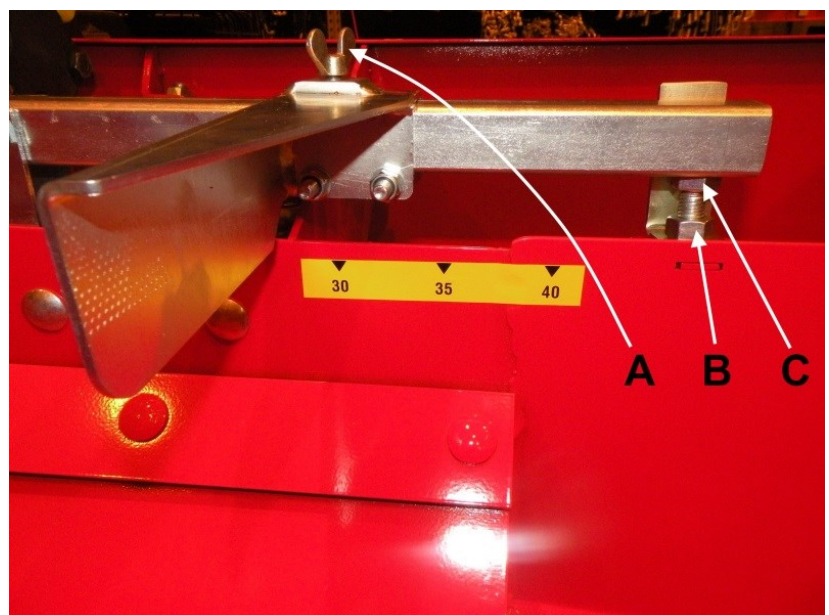

Figure 22. Log length adjustment.
2. Loosen the tightening screw A of the limiter plate, move and tighten the lower edge of the limiter plate to the desired position (Figure 22).
3. If necessary, adjust the height/angle of the limiter plate using the adjustment bolt B and nut C (Figure 22).